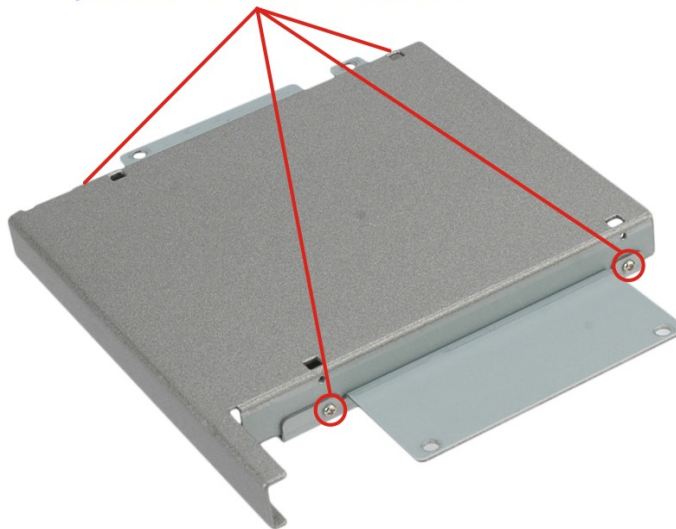

Figure 3-11: Optical Drive Blank Plate Assembly
Step 3: Remove the four screws from the optical drive bracket assembly (**Figure 3-11**).